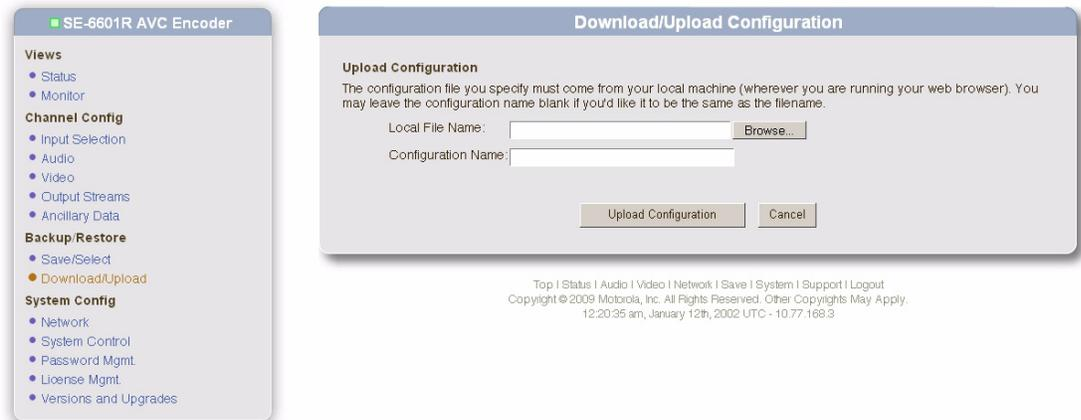

Figure 54: Upload Configuration Menu
2. Click **Begin** to display the Upload Configuration Menu, as shown in Figure 54.